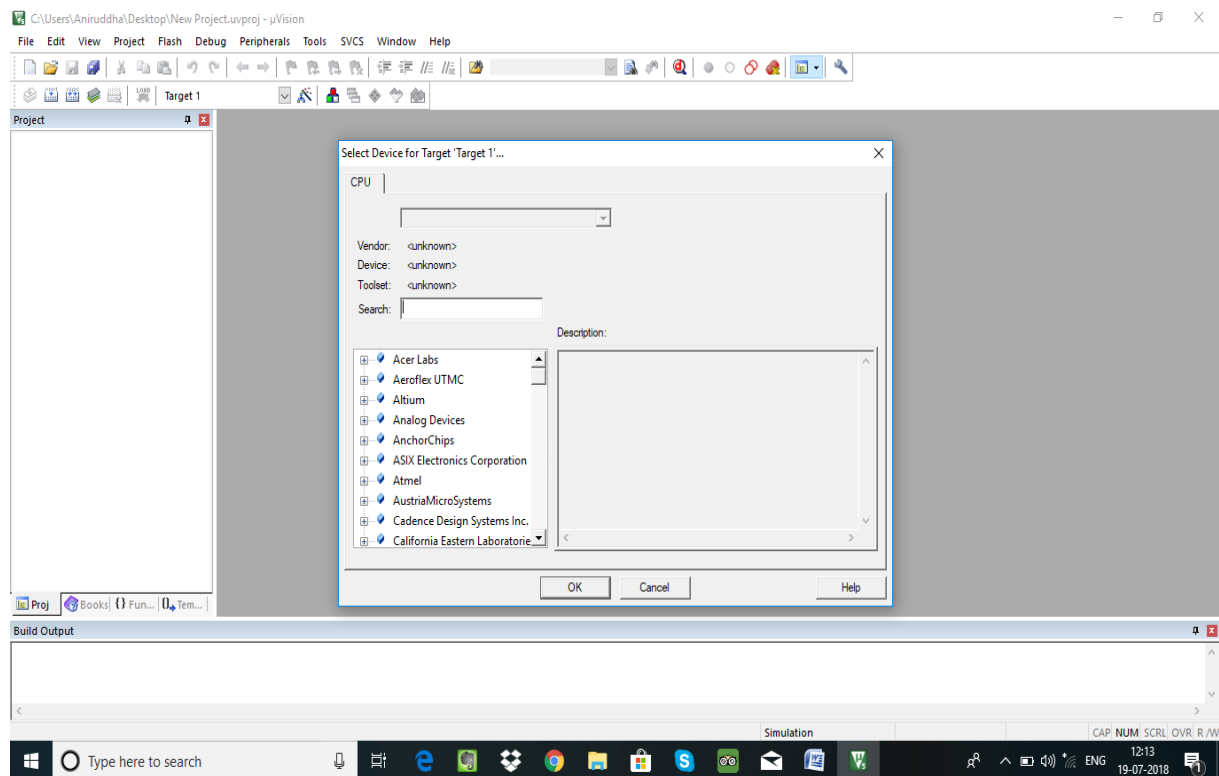

Figure.5
4. "Select device for Target Target-1" window will open. It displays a list of manufacturers of microcontrollers. Fig.5